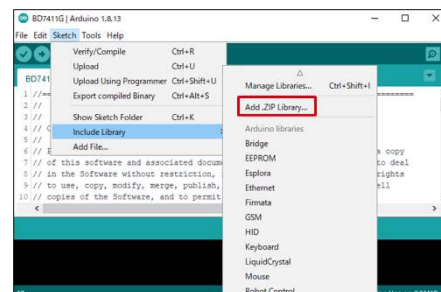

Figure 3. Software Installation
7. Select [Sketch] -> [Include Library] -> [Add.ZIP library...], then BD7411G Software. (Figure 3)